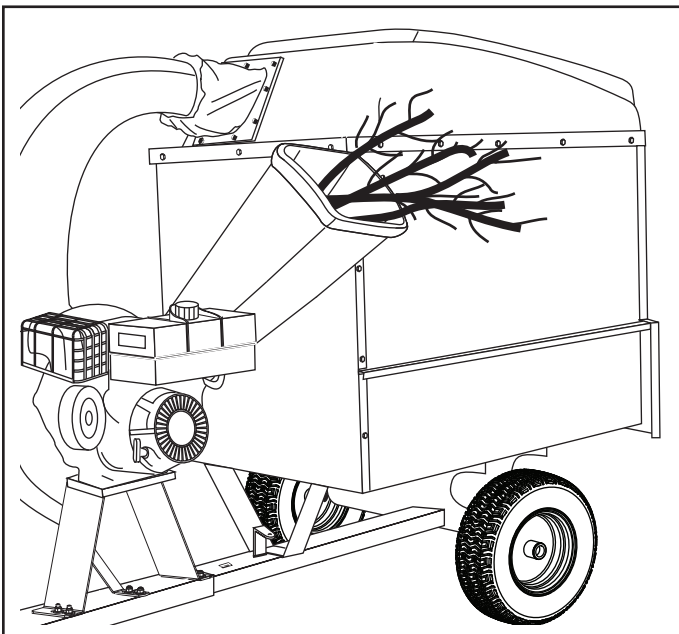

FIGURE 19
1. Material such as stalks or heavy branches up to 3" in diameter may be fed into the chipper chute as shown in figure 19.